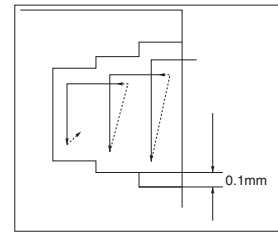

Fig. 6
- 1) When widening the groove width. (Ref. to Fig. 6)